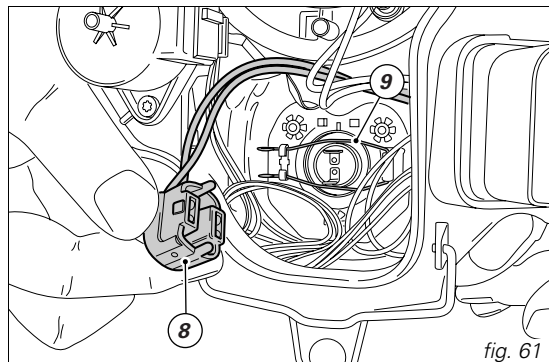

fig. 61
Disconnect the connector (8) from the high beam bulb (fig. 61)